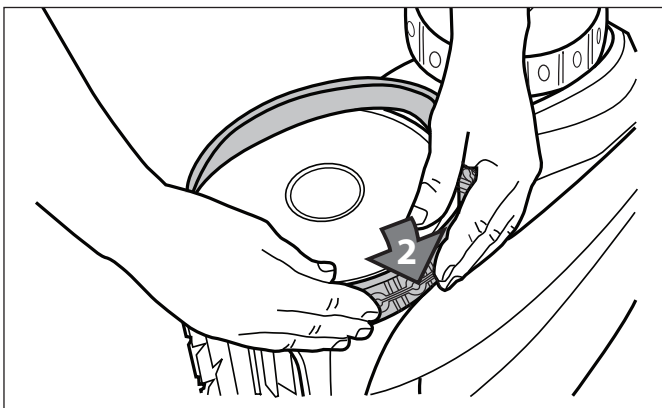

Figure 36. Start on One Side of the Tyre
4. Push one side of the tyre on to the wheel and fit the rib of the tyre in the groove of the wheel (Figure 36).